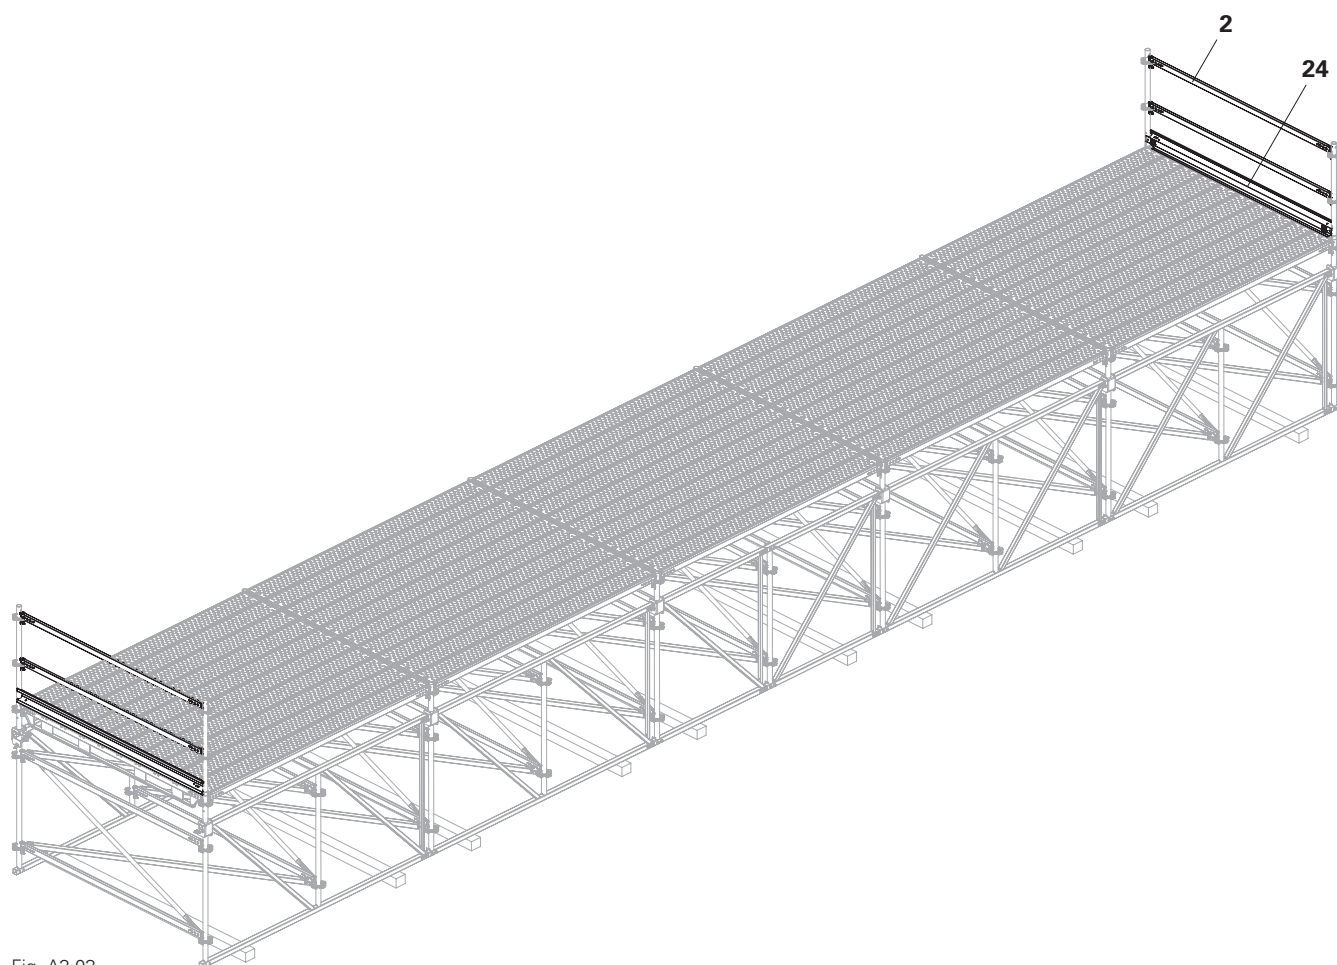

Fig. A3.03
2. Install the Steel Toe Boards UPY (**24**) on the standards on the front side. (Fig. A3.03)